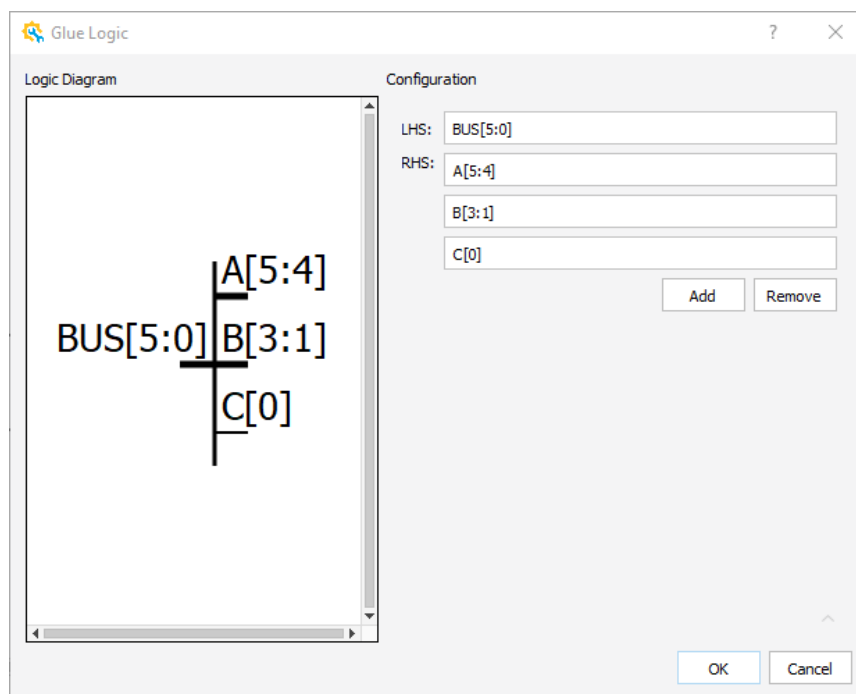

Figure 2.59. Glue Logic Wizard for Split Module
- From the IP Catalog, select the **split** module. Double-click the split module or drag and drop the split module to the Schematic view. A Glue Logic wizard (Figure 2.59) pops up.